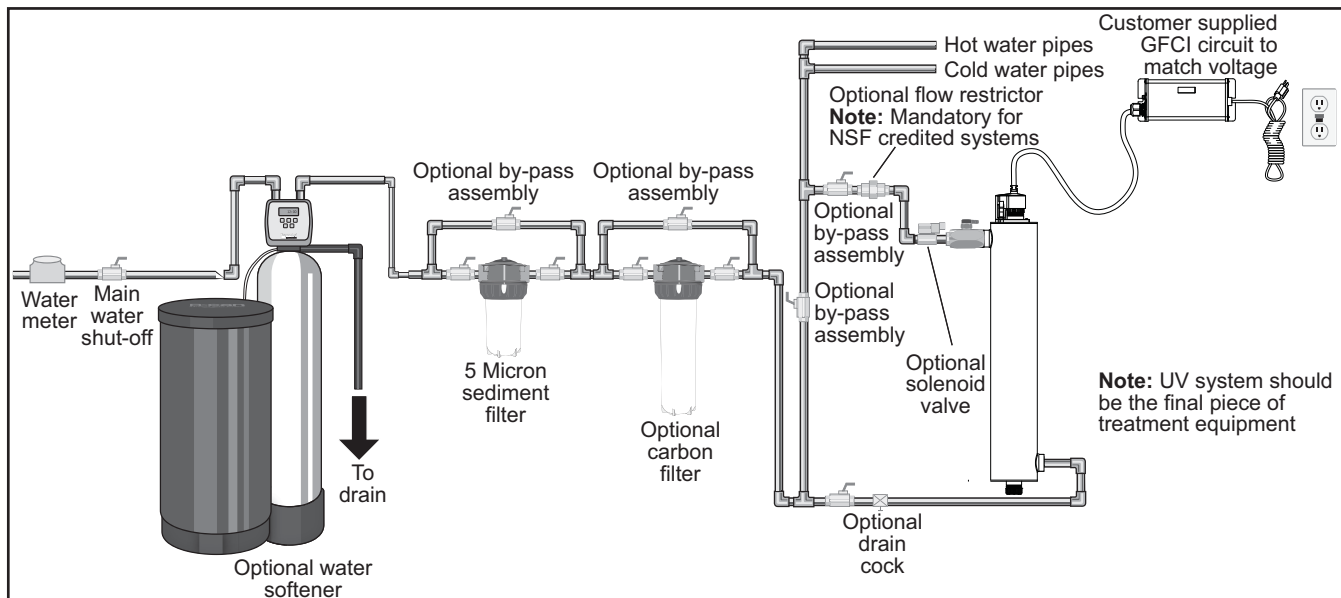

Figure 3 Disinfection System
1. Figure 3 shows the installation of a typical disinfection system and the related components that may be used for the installation. The use of a by-pass assembly is recommended in case the system requires “off-line” maintenance. In this case, note the system requires a supplementary disinfection for the distribution system if any water is used during by-pass condition. In addition, during by-pass, the water will NOT be disinfected and a “DO NOT CONSUME THE WATER” tag should be physically installed on the by-pass assembly until such time as the system is sanitized and returned to service. For more information, refer to Section 3.2. If the water is to be consumed while the system is off-line, the water must be boiled for twenty minutes prior to consumption.